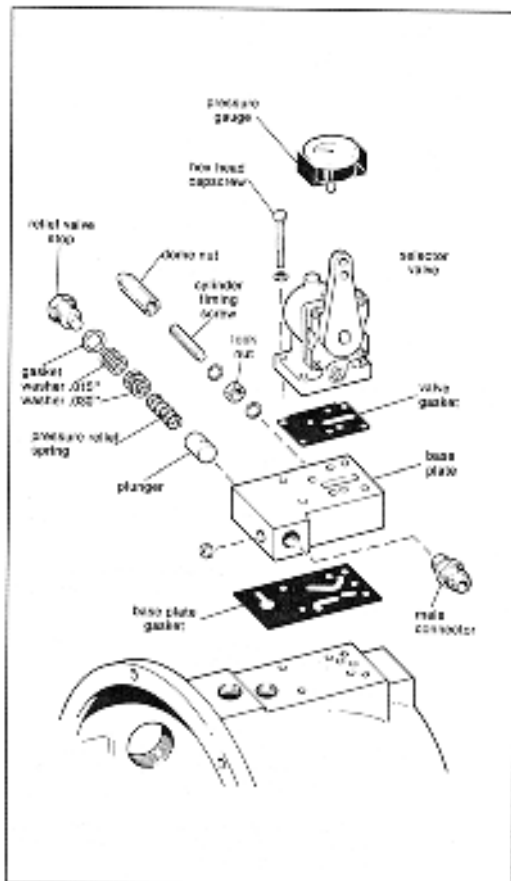

Figure 14. Exploded view of Selector Valve and Related Parts
7. Check for correct assembly by moving lever back and forth. Selector valve is now ready to be installed on base plate and main housing. See fig. 14 below.
1. Remove relief valve stop, gasket, washers, spring and plunger (see fig.14) NOTE: REMOVE RELIEF VALVE STOP CAREFULLY BECAUSE RELIEF SPRING IS UNDER TENSION.